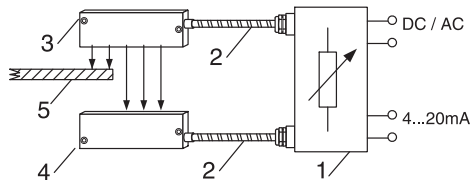
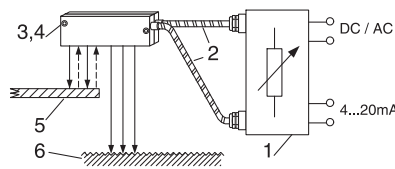

Fig. 1
Fig. 3
In the system structure illustrated in Fig. 1 the optical converters (3, 4) are configured in opposing positions to form a photoelectric barrier. The material (5) which, for example, may be paper or a metal edge, pushes into the light ray and, depending on the depth of insertion, reduces the ray path of the light flow detected by the converter (4). The amplifier (1) which is connected by means of the fibre-optic cable (2) supplies a control signal (4...20 mA) to its output which is proportional to the insertion depth of the material (5) depending on the formation of the optical converters (3,4) with a repeating accuracy of up to +/- 0.5 mm.
In the reflex process illustrated in Fig. 3 the optical converters (3, 4) for the send and receive signals are arranged next to each other, e.g. above the material (5). With this arrangement the material does not interrupt the ray path between the sender and the receiver, but rather reflects a residual ray flow, which is detected by the receiver (4). The output corresponds to the distance of the materials. In this arrangement the result is also a current signal from the amplifier (1) which is proportional to the insertion depth of the material with high repeating accuracy.
Cracks or non-homogeneity in the area of the edges are principally recognised by the processes described in Fig. 1 or Fig. 3. In accordance with Fig. 1, cracks or non-homogeneity are recognized as short flashes of light while passing through, whereas in accordance with Fig. 3 depending on the background the reflection is briefly altered.
Recognition of cracks or irregularities in the material characteristics, e.g. also holes, is dependent on high speed reception on the part of the recording system. If, for example, in accordance with Fig. 1 a crack approx. 2 mm wide moves past the optical converter at a belt speed of 10 m/s the duration of the flash amounts to 0.0002 s. In this case, the optical amplifier has to have a resolution of at least 5 kHz. Similar conditions exist if, for example, border recognition with an accuracy of only a few millimeters has to be carried out for rapid pipe throughput in a section reduction rolling mill.